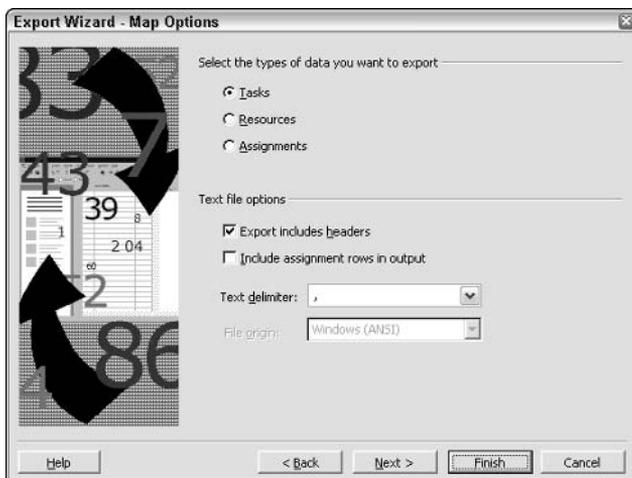

Figure 26-14: Select the options for the export map.
6. Choose to create a new map, and click Next. Project displays the Map Options dialog box, as shown in Figure 26-14.